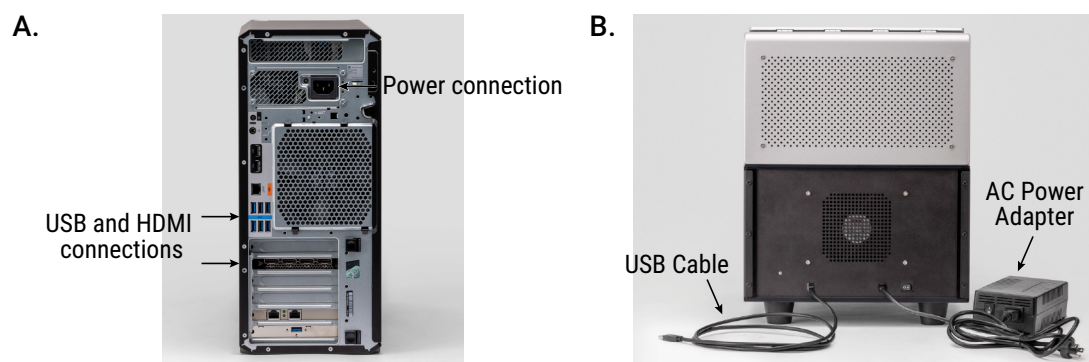

Figure 5. Panel A. Back of the PC. **Panel B.** Back of the GloMax[®] Galaxy Imager.
6. Using the provided USB cable, connect the PC to the USB port (Type B) on the back of the instrument as shown in Figure 5.
5. Using the provided USB cable, connect the PC to the USB port on the back of the instrument (see Figure 5).